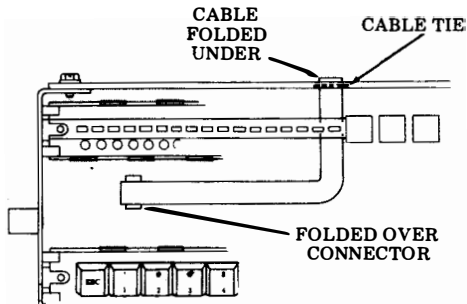

Fig. 28—Cable Routing
(a) Insert new cable connector into circuit card holes and press into place. Route cable as shown in Fig. 28. Hold cable connector in place and resolder.
- (b) Fold the cable under the circuit card and fasten to the circuit card using a cable tie. See Fig. 28.